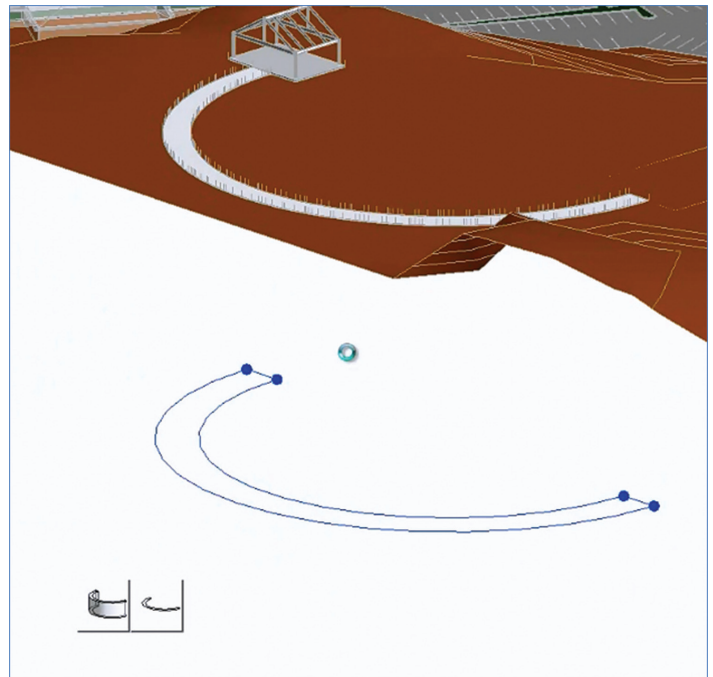

Figure 8: Create two semi-circles
4. Break the circle into two semi-circles as shown in Figure 8.